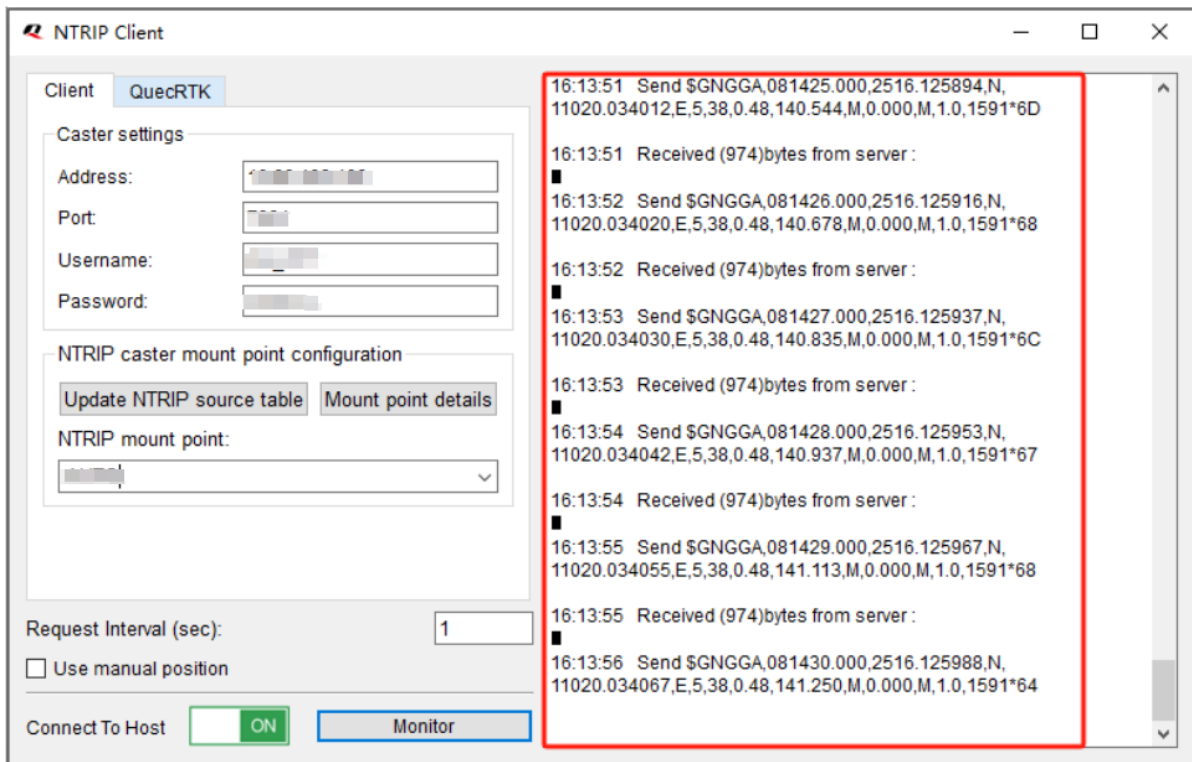

Figure 28: Connected to Server Successfully
- Step 6:** Switch ON the “**Connect to Host**”. If the configuration is correct, you can see the messages sent to the RTK server and differential data received in the box on the right as shown in Figure 28: Connected to Server Successfully